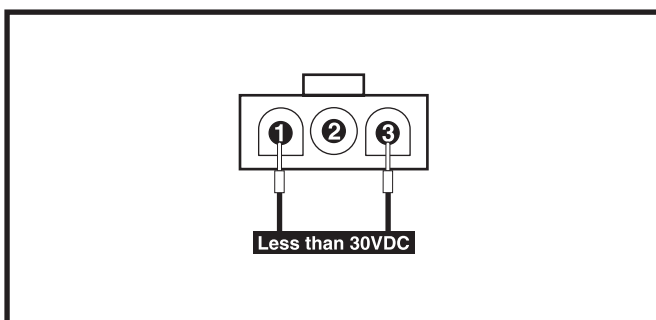

Figure 40. Connector 4a
5. Measure voltage across pin 1 and pin 3 on connector 4a. **See figure 40.**
- If your multimeter indicates more than 30VDC, then replace the battery charger (4) and retest the system.